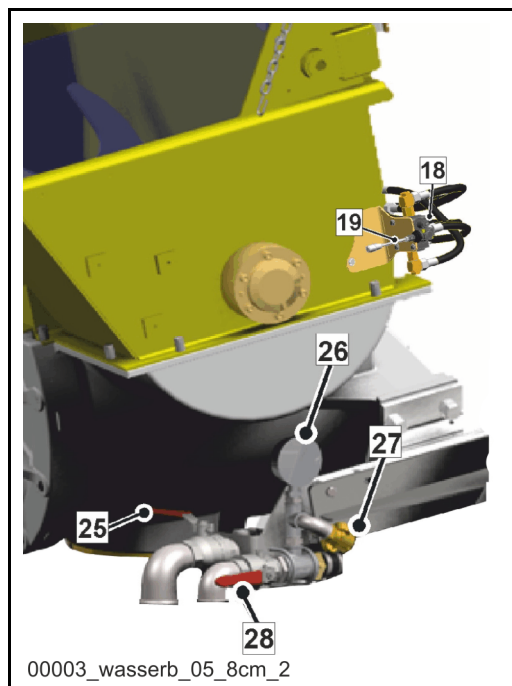

Fig. 206
6. Open the ball valve (25) (**Fig. 206**) to drain the water box.